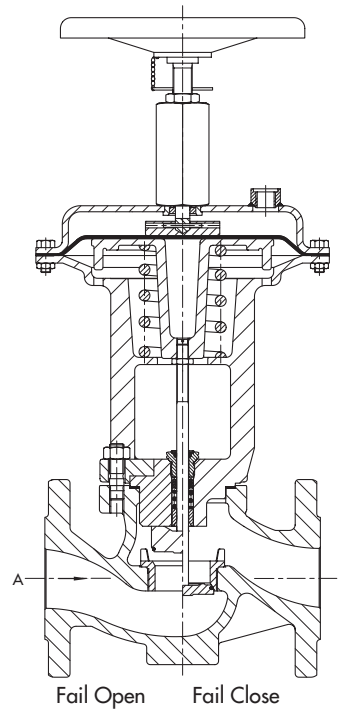

Fig. 4 · Type 3351-1 Pneumatic On-off Valve with handwheel
2) For direction of flow B → A (see Fig. 4)